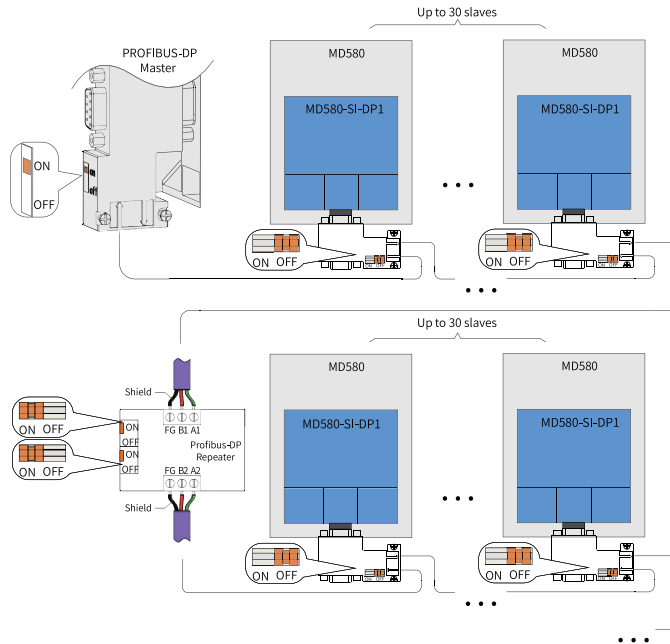

Figure 3-34 Multi-device system connection with a repeater
- For multi-device system connection with a repeater, connect termination resistors at the head and end, and connect the termination resistor of the repeater, as shown in *"Figure 3-34 Multi-device system connection with a repeater" on page 91.*